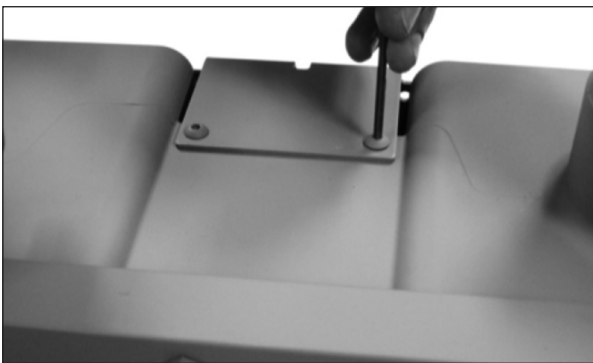

Figure 9.25 Example - Attach AMR plate to the meter.
12. Push the gray pulse output cable back into the meter until the exposed wires are close to the cable gland nut as shown in Figure 9.25 Example.